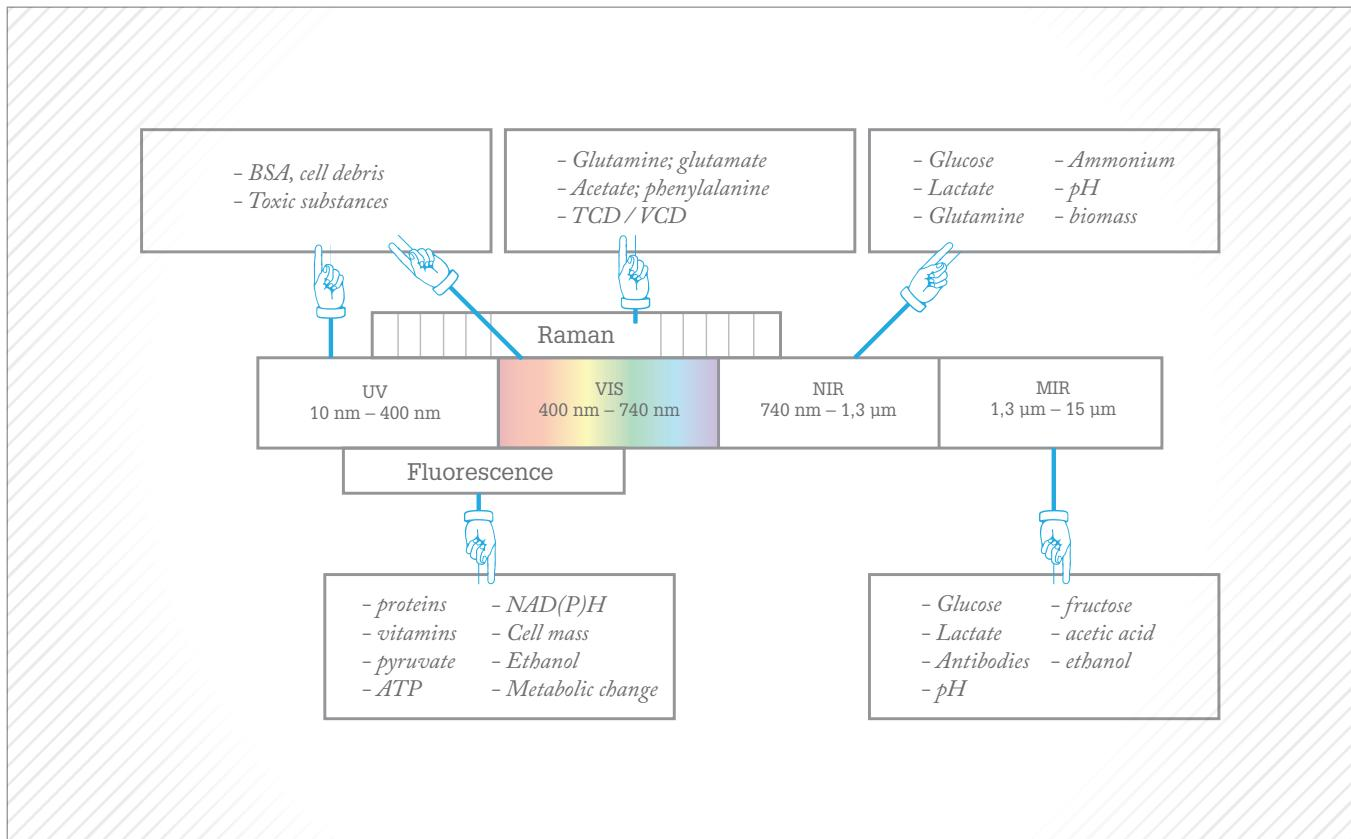

Figure 1: Spectral range for bioprocess monitoring with accessible variables.
The concentrations of dissolved gases, including oxygen and carbon dioxide, as well as various nutrients, metabolites and products, need to be monitored in the liquid phase. Classical electro-chemical sensors can be used for pH, pCO2 and pO2 measurements in steel bioreactors, using standard ports. For disposable bioreactors, optical chemosensor systems – also called optodes – can be used for those variables. Optodes are based on the interaction of a matrix-embedded indicator and the analyte (3) and can be pre-sterilized within the disposable containers by  $\gamma$ -radiation and can be connected to optical fibers via transparent materials, such as glass. Such optical chemosensors are used to monitor chemical variables, but for nutrients and other biological variables, spectroscopic measurement is recommended. Common spectroscopic methods for bioprocess monitoring are focused on the spectral range from UV to MIR, including fluorescence and Raman spectroscopy. Various bioprocess variables can be measured in different spectral ranges (4–16) (see Figure 1).